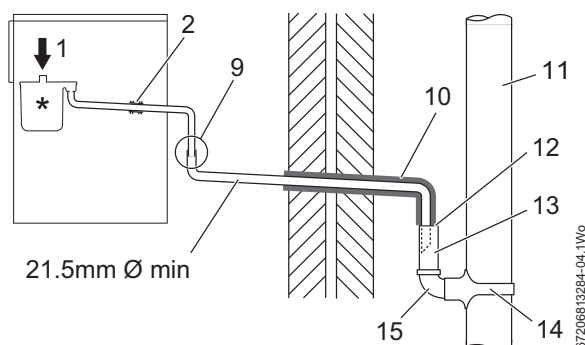

Fig. 17 Disposal into a rainwater down pipe
- Refer to figure 17 when a rain water down pipe is used to dispose of condensate.